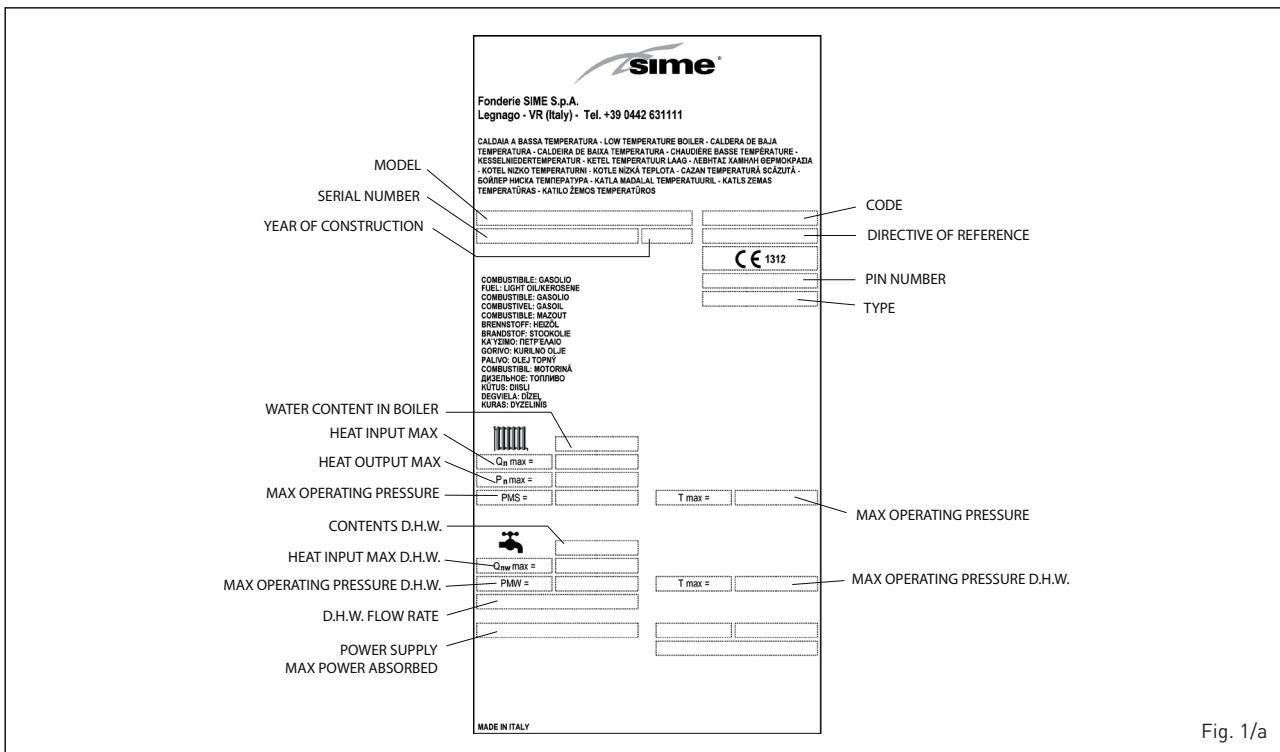

Fig. 1/a
1.2 DIMENSIONAL DETAILS (fig. 1)
1.2.1 Technical data plate (fig. 1/a)
When connecting up the water supply to the boiler, make sure that the specifications given in fig. 1 are observed. All connecting unions should be easy to disconnect by means of tightening rings. A closed expansion tank system must be used.